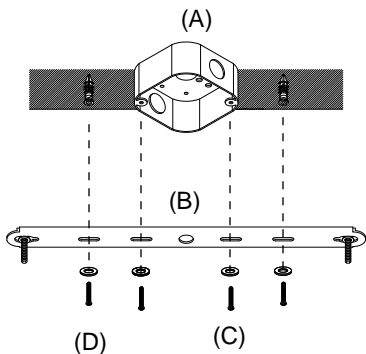

Fig. 1
Take off screws from outlet box (A). Secure the mounting plate (B) onto the box with flat washers and screws (C) taken off (Fig. 1). Fix two additional screws (D) with washers onto the ceiling if needed (optional).